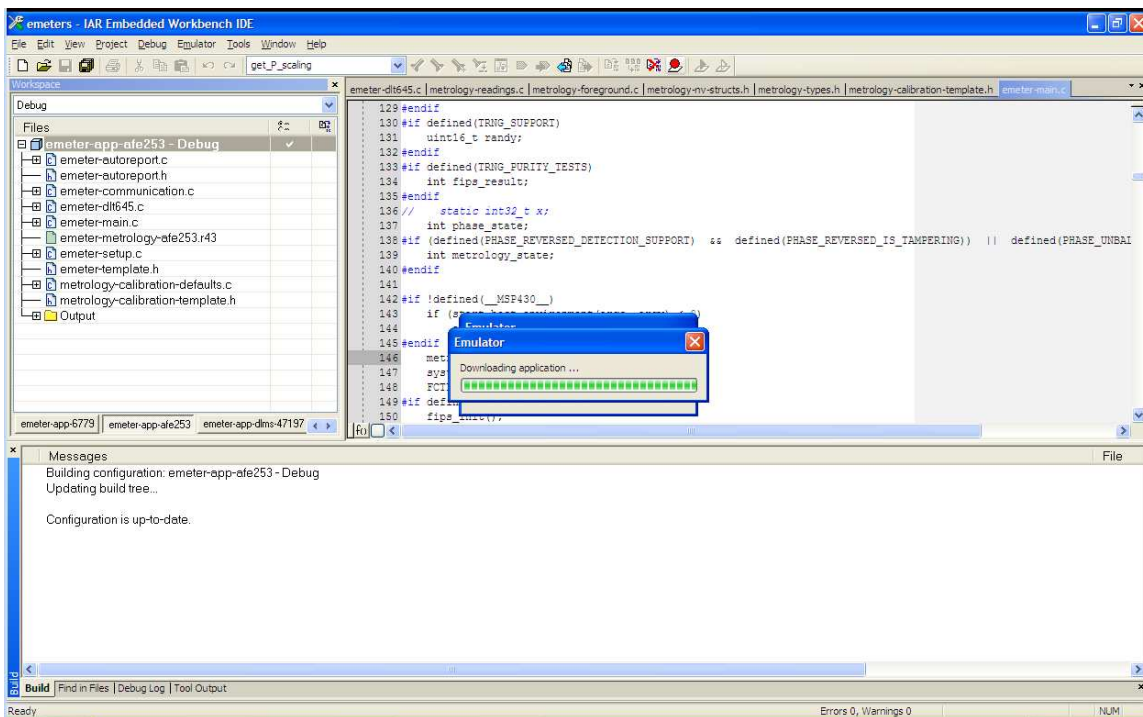

Figure 23. Code Downloading
9. Click the [Download and Debug] button to begin download and debugging (Figure 23).